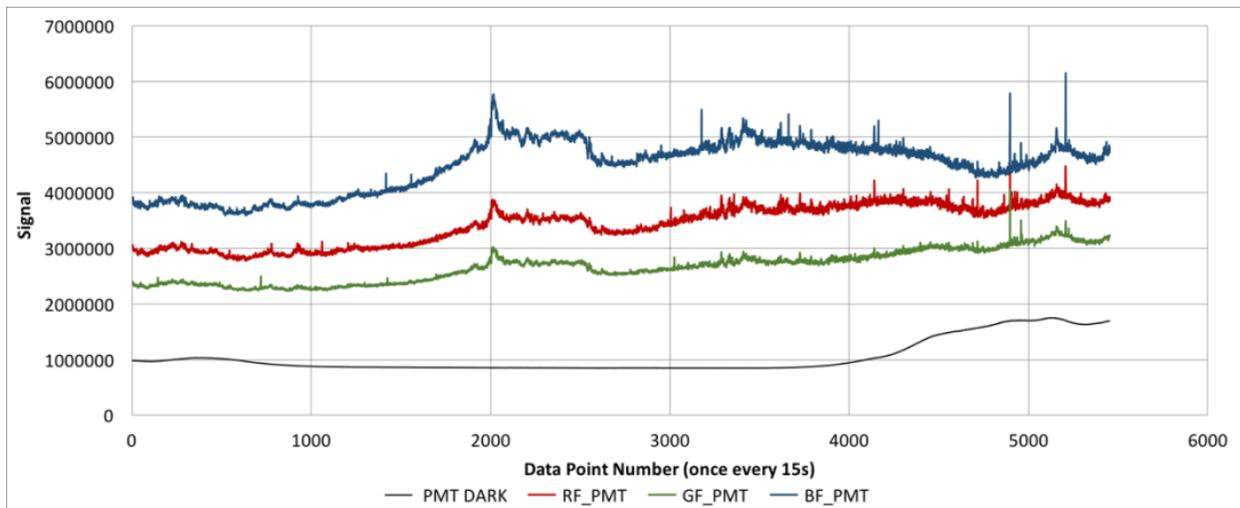

Figure 1: Dark PMT signal (PMT DARK) compared to the forward PMT signal at each wavelength
- Dark PMT values should be significantly lower than PMT measurements at all three wavelengths for both forward and backward. The value and magnitude of the PMT signal is specific for each nephelometer, however an example is shown below in Figure 1.